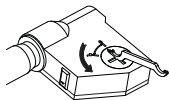

fig.1
---Turn the battery cover 45° counterclockwise with the spanner (fig.1), then remove it